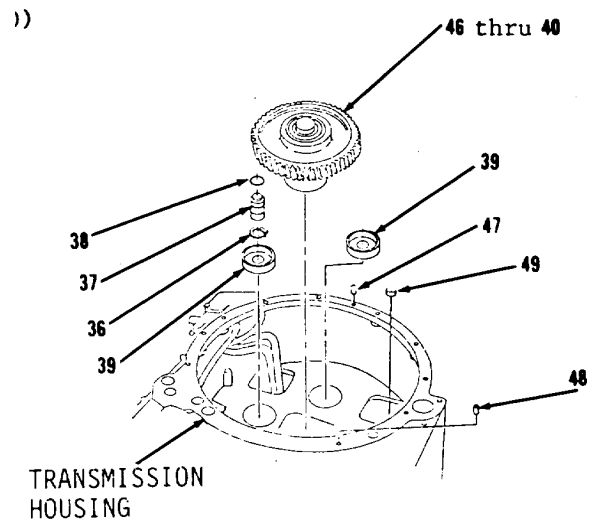

Figure 14-26.
33. Using dry ice, lower temperature of three bearing cups (39, Figure 14-26).
34. Install three bearing cups (39).
35. Install two carrier rings (37), new seal rings (38) and snap rings (36).
36. Tilt and install items 46 thru 40 as an assembly.
37. Install plug (49), two dowel pins (48) and dowel pins (47) in transmission housing.